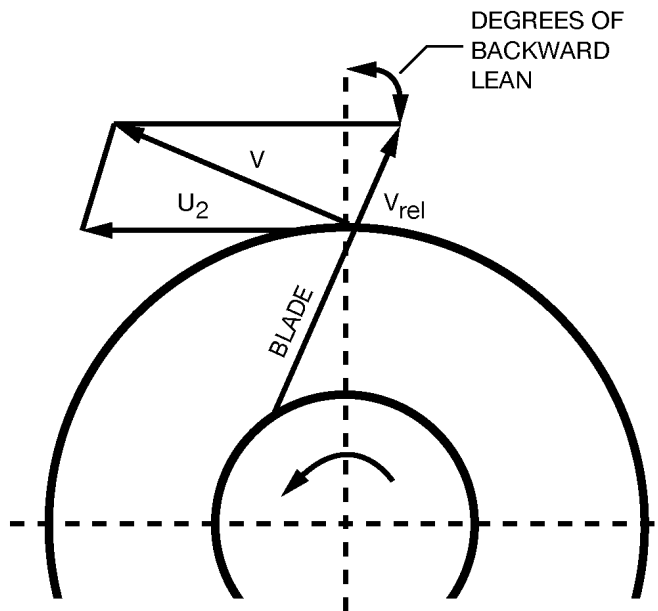

Figure 4. Impeller Discharge Gas Velocity.
- Velocity (kinetic energy) is imparted from moving blade to gas in the impeller (Figure 4).